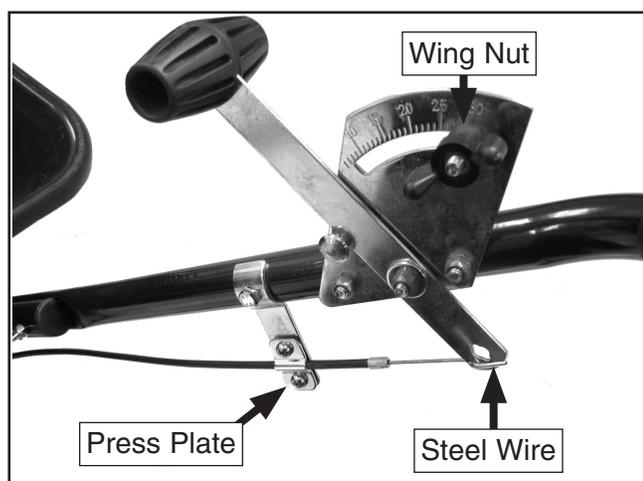

Figure 7. Control lever assembly.
7. Insert the steel wire head of the control cable into the small hole located at the end of the lever assembly. To make sure that the holes in the bottom of the hopper align with the holes in the adjustable plate; fully push the lever down and check the inside of the hopper to make sure that the adjustable plate is closed. Clamp the control cable into the press plates by removing and re-installing the two Phillips head screws and lock nuts, as shown in **Figure 7**.
During operation, push the handle downwards to lessen the amount of product being distributed and pull up to increase. The wing nut on the lever assembly, as shown in **Figure 7**, can be adjusted to facilitate a maximum product distribution for the current spreading task.